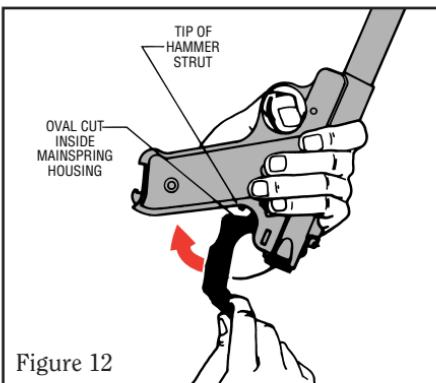

Figure 12
7. Now invert the pistol so that the muzzle is pointed upward. Make sure you can see the hammer strut when you lift the housing up. The hammer strut should go into the oval-shaped cut inside the mainspring housing. (See Figure 12.) Hold the trigger to the rear. While holding the pistol in this position and depressing the trigger, move the mainspring housing into its proper place in the frame. (See Figure 13.)